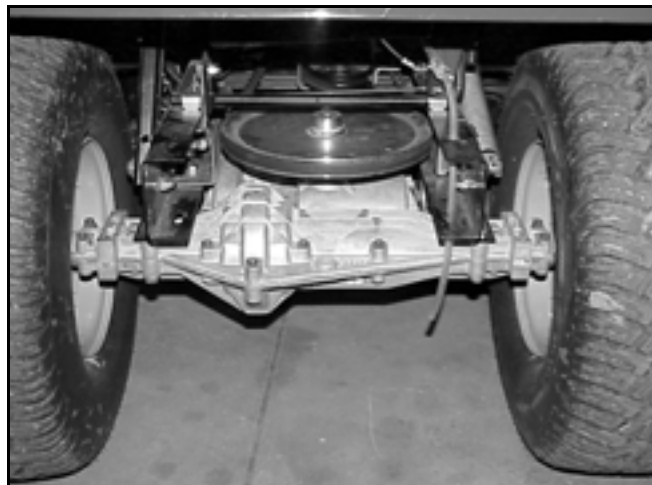

Figure 67
13. Install battery and battery tray. **Note: If battery uses a battery drain tube, make sure the tube is reinstalled through the rear hole in the frame (Figure 67).** Connect the battery cables.